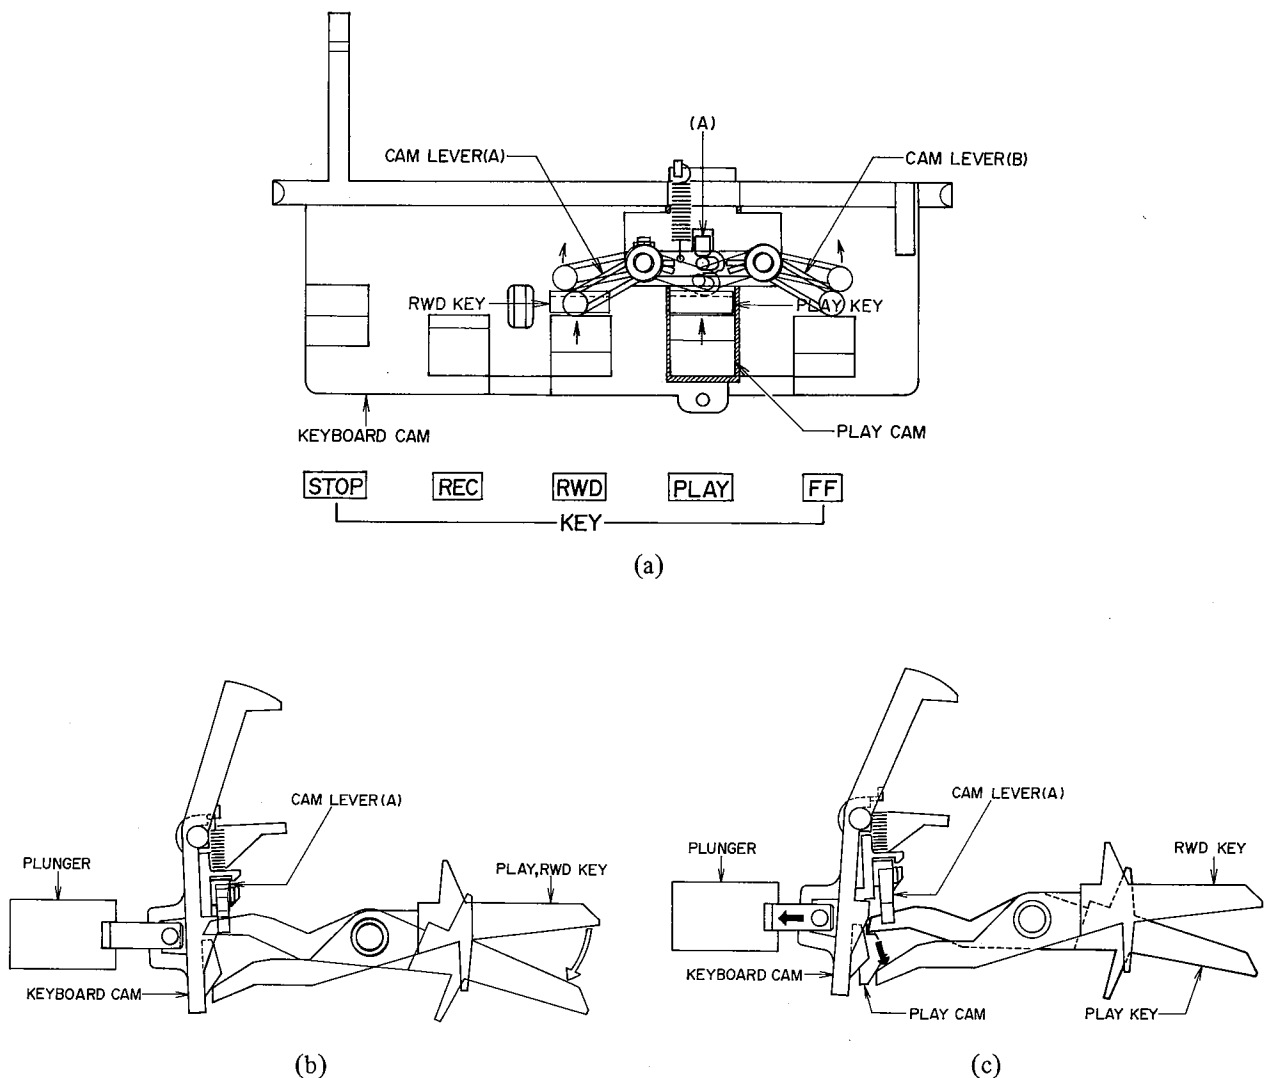

Fig. 12
7. DESCRIPTION OF KEYBOARD OPERATION (Refer to Fig. 12)